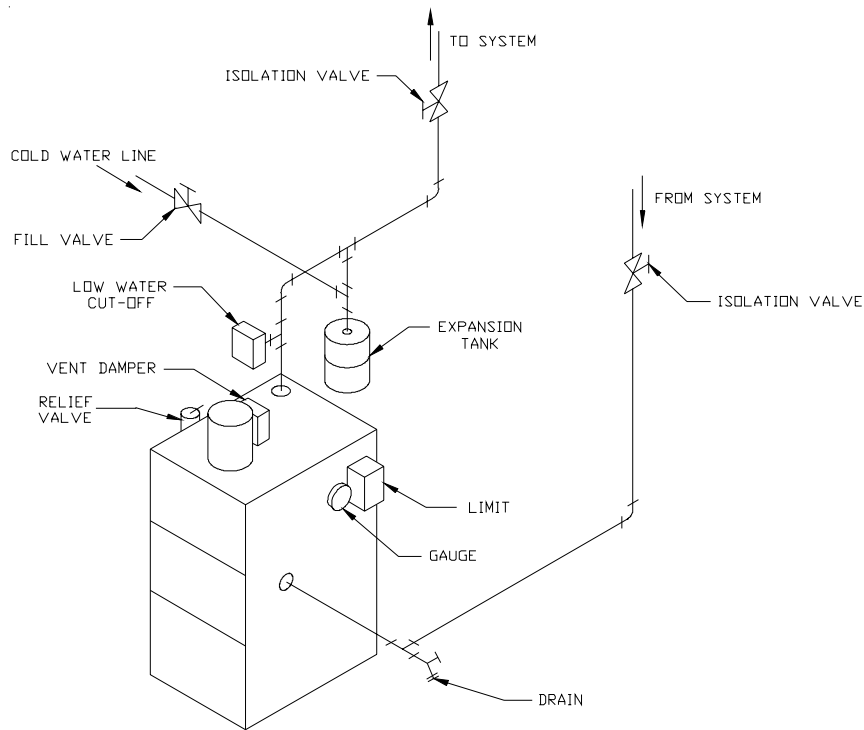

FIGURE 16: GRAVITY PIPING
- 7) Gravity Hot Water Systems - The CWI is suitable for installation in a gravity hot water system. Figure 16 shows piping for a gravity hot water boiler. The circulator, 1-1/2" x 2" bushings, and 1-1/2" piping are removed and the system piping is run directly to the 2" supply and return tappings on the boiler. If isolation valves are installed, they should be gate valves or "full port" ball valves.